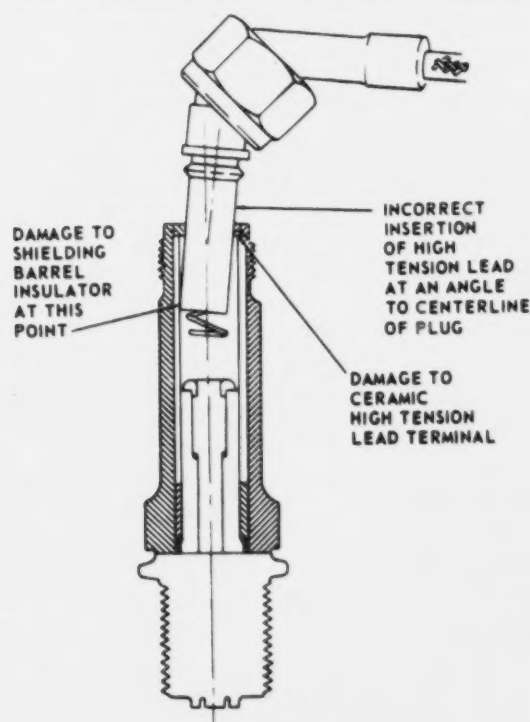

Figure 5-40. Removing spark plug lead
b. Removal. (1) Open engine cowling doors.
(2) Remove spark plug lead from spark plug using a suitable wrench. Take care not to allow elbow to turn or wrench to slip.
(3) Carefully withdraw spring connector from spark plug, pulling lead straight out in line with centerline of spark plug barrel. (See figure 5-40.) Place a protector cap over spring connector.
(4) Remove spark plug using a suitable wrench.
(5) If spark plug is seized in cylinder, fabricate a conical metal funnel adapter with a hole